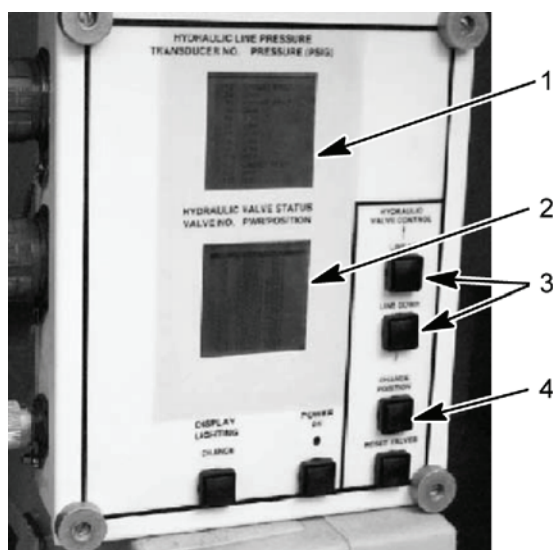

Figure 55. HDC Control Box
- Using LINE UP or LINE DOWN button (Figure 55, item 3) on the HDC control box, select V5 on the HDC display (Figure 55, item 2). Using the CHANGE POSITION button (Figure 55, item 4), close V5 on the HDC display (Figure 55, item 2). Repeat last two steps for V12, V13 and V19; closing V12 and V13, and opening V19.
- Remove cap (Figure 57, item 3) from suspension relief valve adjusting shaft (Figure 57, item 2) and loosen jam nut (Figure 57, item 1). Observe transducer T-13 hydraulic pressure on the HDC display (Figure 55, item 1). Turn adjusting shaft (Figure 57, item 2) clockwise to increase pressure or counterclockwise to decrease pressure, as necessary, to obtain desired pressure. Tighten jam nut (Figure 57, item 1) and replace cap (Figure 57, item 3).